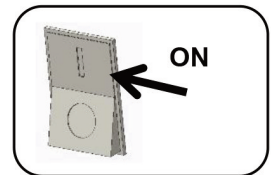

Fig. 4
7. Switch on power to the luminaire. **(Fig. 4)**